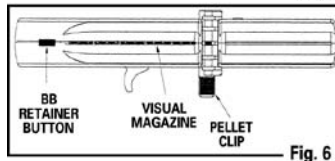

Fig. 6
- Push the BB retainer button forward to keep the BBs in the magazine (Fig. 6).